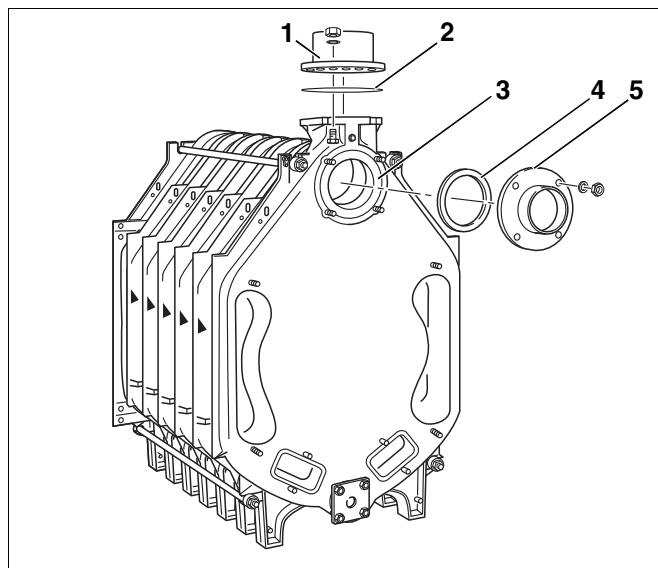

Fig. 28 Fitting a connection flange
The weld neck flange (with welded-on pipe) is fitted to the upper boiler hub (Fig. 28, [3] – return connection) if the return is connected at a later stage.
The weld neck flange and flat gasket are shown in (Fig. 28, [4] and [5]).
- ▶ The flow connection flange (Fig. 28, [1]) with flat gasket (Fig. 28, [2]) is required for connecting the flow at a later stage.